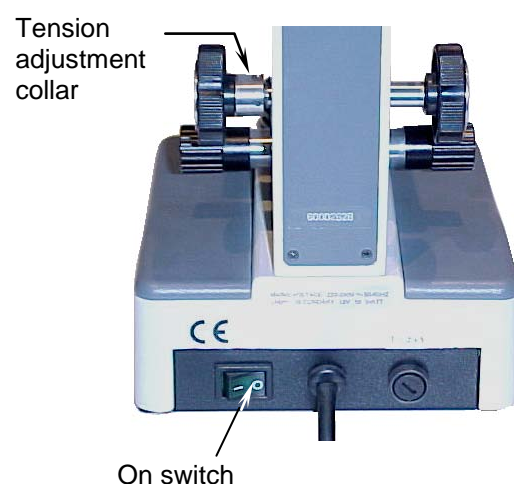

Fig.1
1. Switch to ON position. (Fig. 1)
The collar to adjust the coarse focus tension (Fig. 1) is situated between the coarse focus knob (13) and the arm (10). The tension of the coarse focus knob comes pre adjusted by the manufacturer. The optimum tension point is that which permits fluid movement of the knobs, without the stage (6) sliding down on its own.